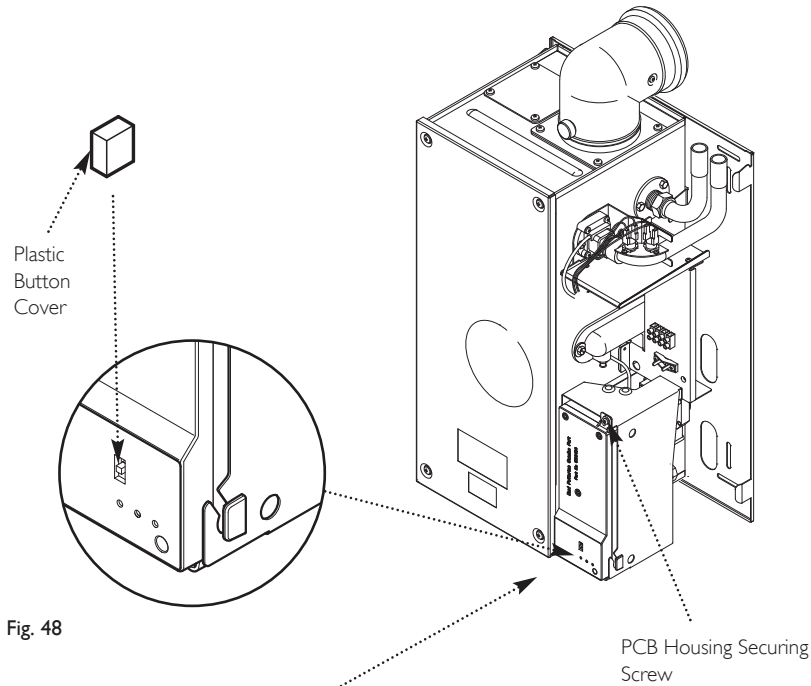

Fig. 48
15.4 PCB (Figs. 48 & 49)
1. Remove the plastic button cover. Refit them onto the new PCB (Fig. 48).